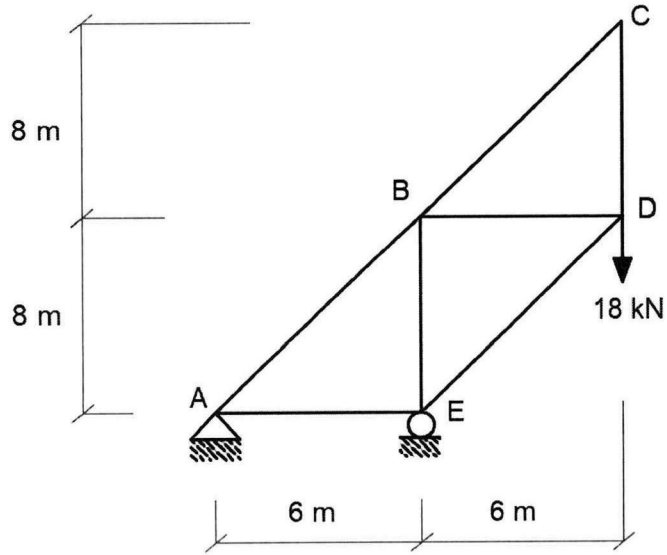

Figure 2 (b)
- (b) **Figure 2(b)** shows a truss with pinned and roller support at A and E respectively. The truss is subjected to 18kN force at D.